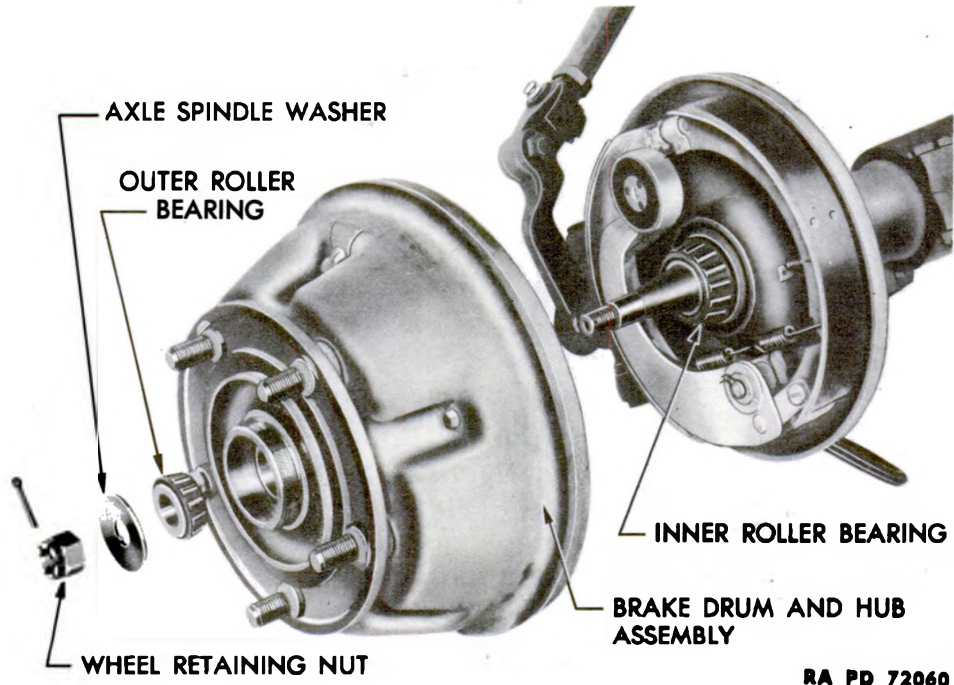
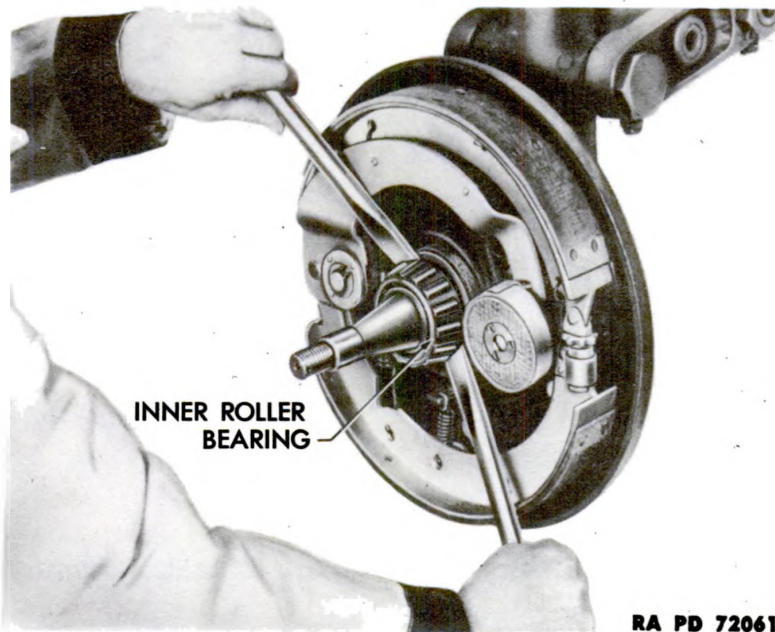

Figure 158 – Wheel Hub Parts – Disassembled View
Figure 159 – Inner Roller Bearing – Removal
(2) Remove the cotter pin from the wheel retaining castle nut on the axle spindle (fig. 158). Unscrew the castle nut. Remove the axle spindle washer and outer roller bearing. Dismount the brake drum and hub assembly from the axle spindle. Remove the inner roller bearing (fig. 159).